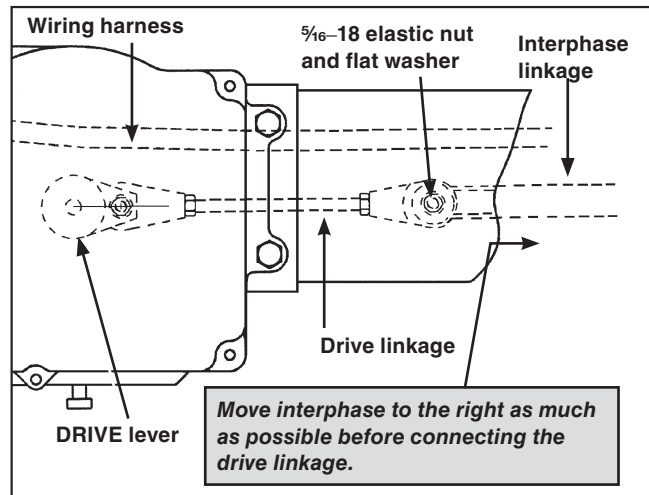

Figure 11. Ensuring the interrupter contacts in the fully Open position.
STEP 11. Make sure the interrupter contacts are still in the fully **Open** position by pushing the interphase linkage as far as possible to the **Open** position to the right when viewed as shown in Figure 11. Reattach the uni-ball joint on the drive linkage to the connecting stud on the interphase linkage using a $\frac{5}{16}$ -18 elastic nut and flat washer (provided with the replacement kit).